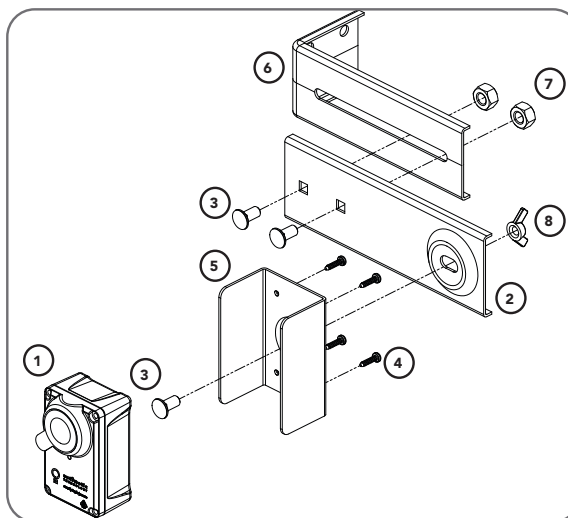

Fig.6.6.1
- Place the round screw (3) through the Bracket (5). Attach the Safety Beam Transmitter (TX) using four (4) M3 x 5 Taptite screws (4) (Fig. 6.6.1).
- Connect the mounting bracket (2) to the Bracket (5) using the wing nut (8) onto the round screw (3). Secure the adjustment bracket (6) to the mounting bracket (2) using two (2) screws (3) and nuts (7).
- Repeat steps (a) and (b) to assemble the Safety Beam Receiver (RX).